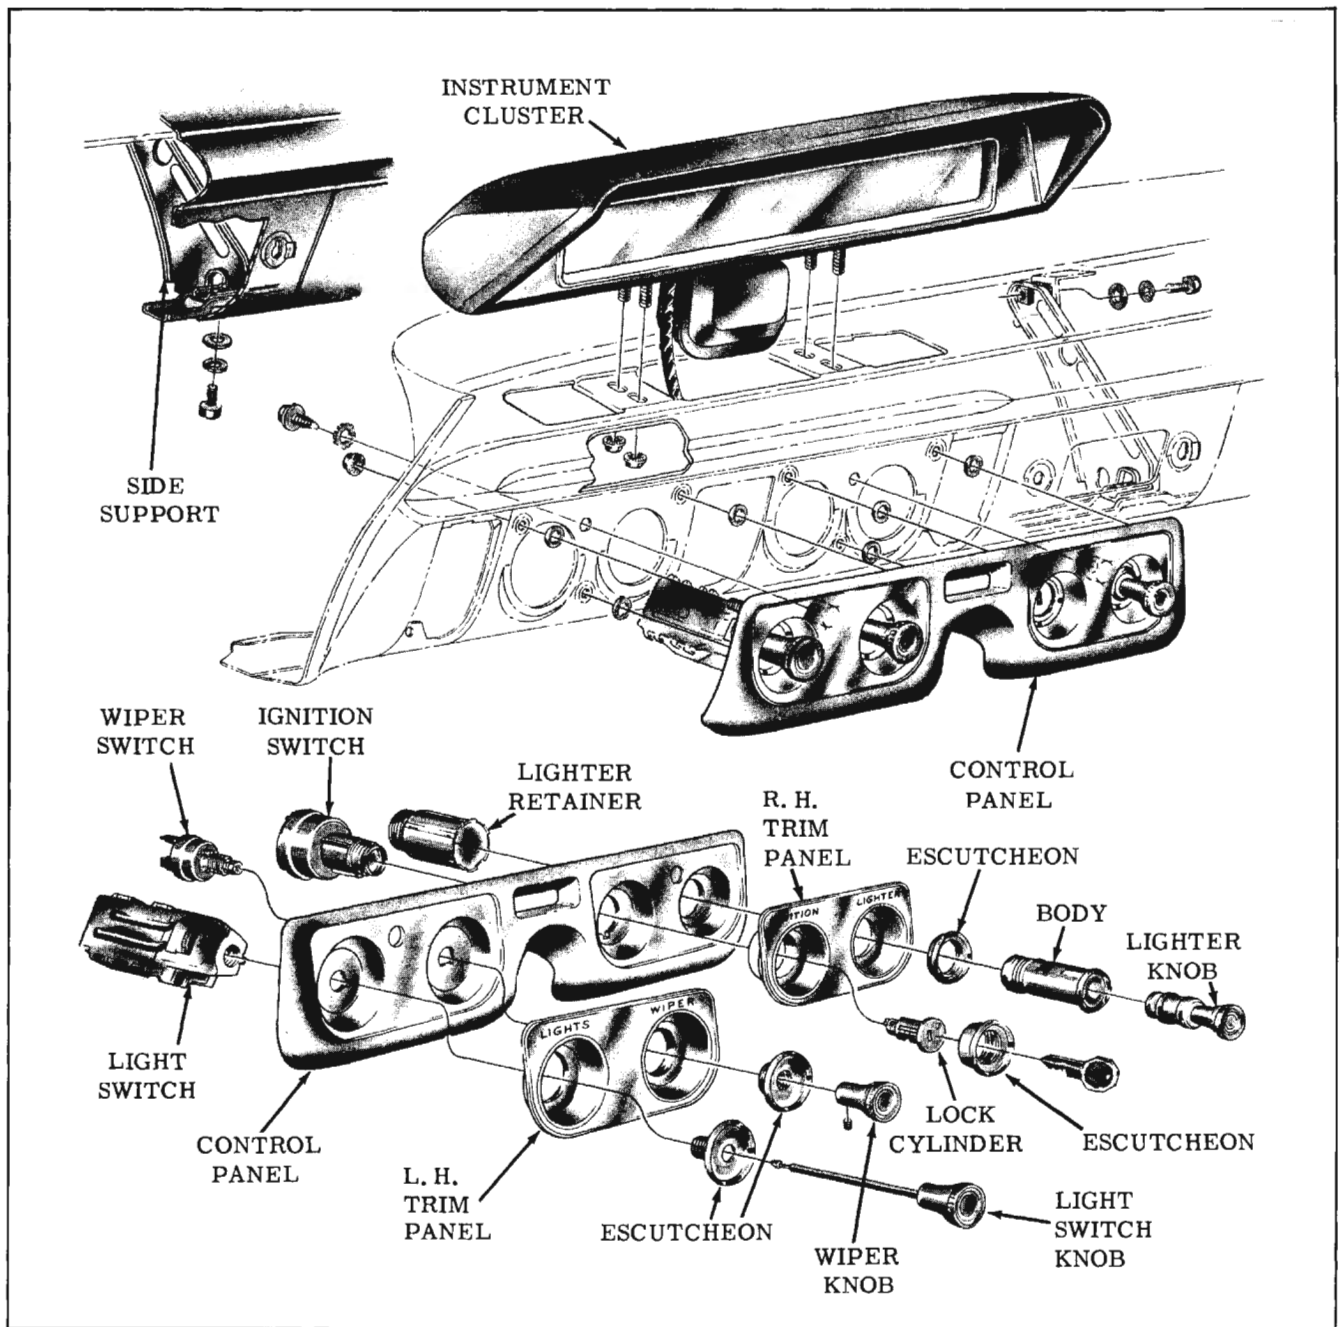

Fig. 14-126 Instrument Panel Assembly
4. Slide switch through instrument panel opening from the back side of the instrument panel. (See Fig. 14-126)